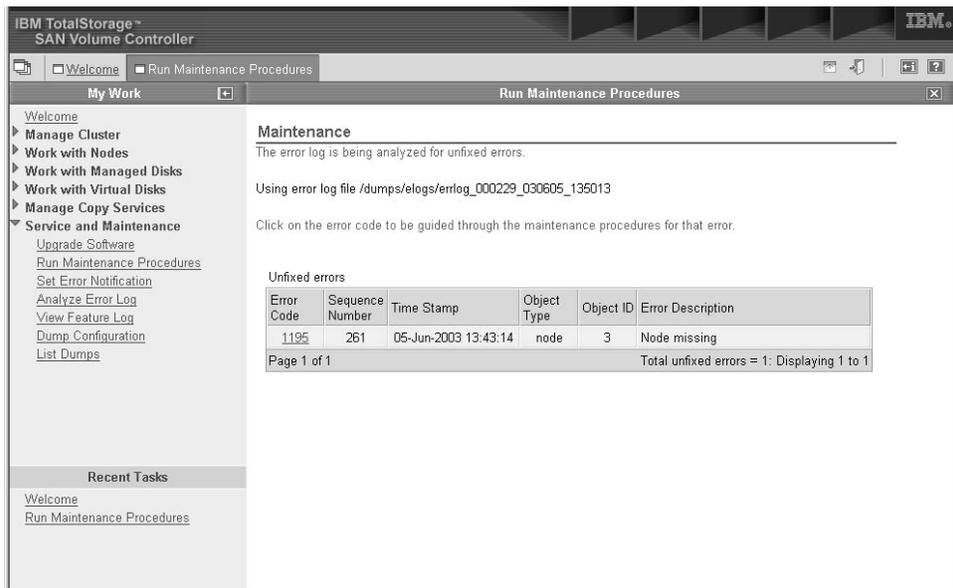

Figure 36. Example of what is displayed when you start analysis
- From the panel for Maintenance Procedures, click Start analysis to display what is shown in Figure 36.
Figure 36 shows a list of unfixed errors. This example shows that only one error needs to be repaired. The list might contain any number of errors that need to be repaired. The error at the top of the list has the highest priority and should always be fixed first. If you do not fix the higher priority errors first, you might not be able to fix the lower priority errors.